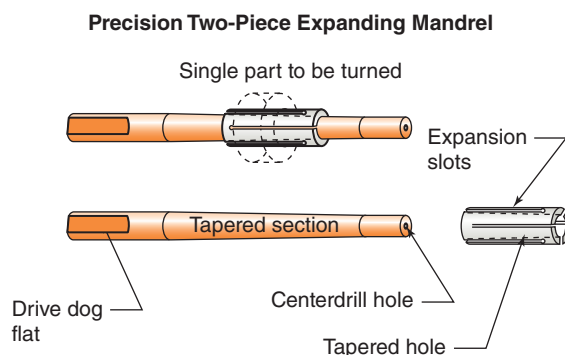

Figure 11-84 Expanding mandrels work like internal collets.
Machining a bushing (Fig. 11-84) is a good example of an expanding mandrel job. Suppose its outside diameter (OD) must be reduced by 0.030 inch and that new OD must be concentric to the ID within 0.001 in. The expanding mandrel is the right choice.